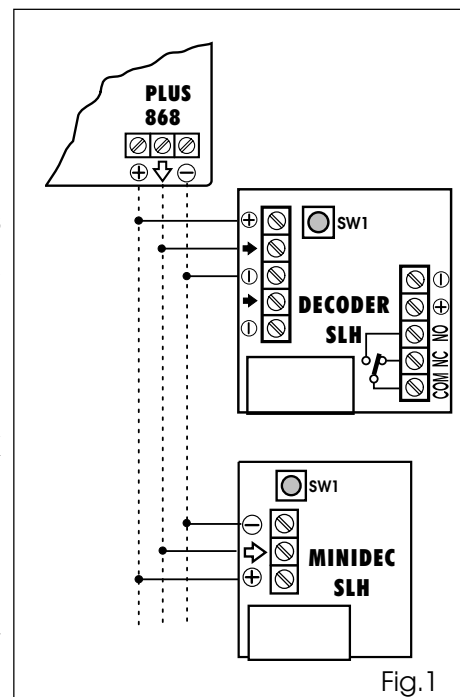

Fig.1
- 1) Power up the system after installing and connecting the electrical components of the 868 SLH System (fig. 1).